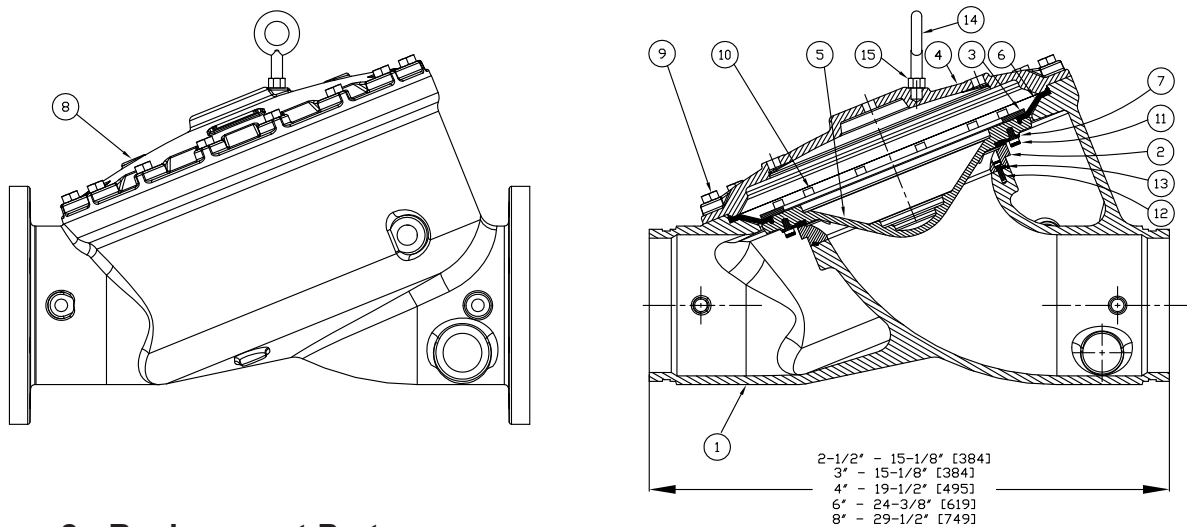

Figure 2 - Replacement Parts
D. Valve Disassembly (Refer to Figure 2)
2. Remove trim as required to allow removal of cover (4).
3. Remove screws (9).
4. Lift cover (4) from body (1).
5. Remove clapper assembly (No. 3, 5, 6, 7, 9, 10, 11) by lifting it from the body (1).
6. Inspect seat (2). If replacement is necessary, remove screws (12). Remove old seat (2) and o-ring (13). Replace with new seat (2) and o-ring (13). Replace screws (12).
7. To replace the diaphragm rubber (6), remove the circle of screws (10). Remove the clamp ring (3) and remove the diaphragm rubber (6).
8. To replace the seat rubber assembly (7), clapper assembly (3, 5, 6, 7, 9, 10, 11) must be removed from the valve. Remove the circle of screws (12). Seat rubber assembly (7) can be removed.